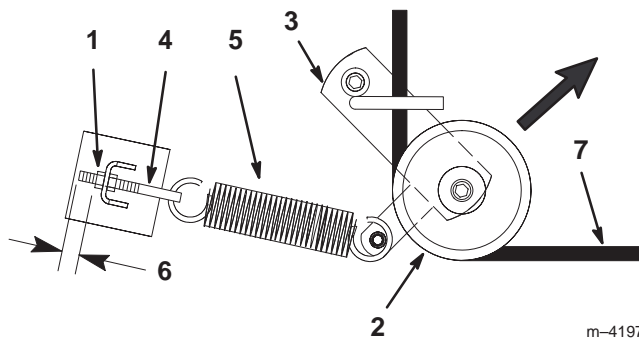
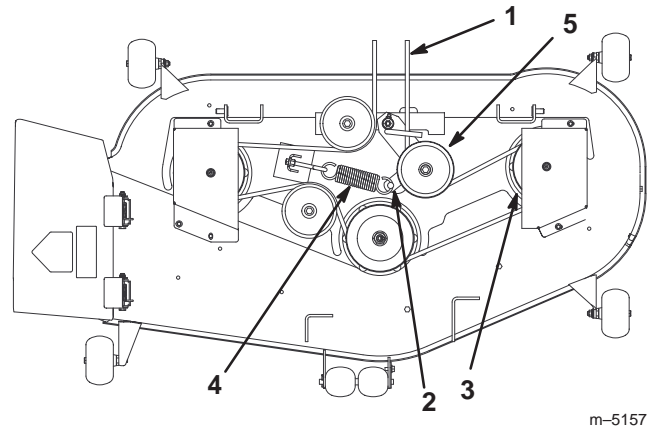

Figure 42
Figure 43
4. Pull the idler pulley in the direction shown in Figure 42 and roll the belt off of the pulleys.
5. Route the new belt through the idler arm and around the idler pulley (Fig. 42).
6. Pull the idler pulley in the direction shown in Figure 42 and route the belt onto the other pulleys (Fig. 43).
Note: Check to ensure that the length of exposed thread on the spring eye bolt is 1/8 in. (3 mm) (Fig. 42).